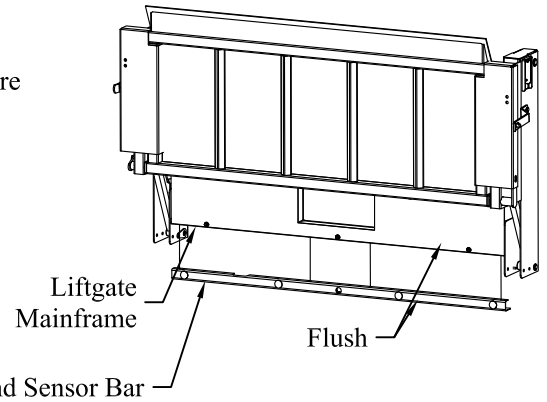

Figure 4: Rear camera and sensor bar position.
**Align** the bar so its vertical face is flush with the mainframe box cover (Figure 4).
5. **Install** the rear camera and sensor bar underneath the liftgate using the supplied 1/4-20 hex bolts and nuts (Figure 4).